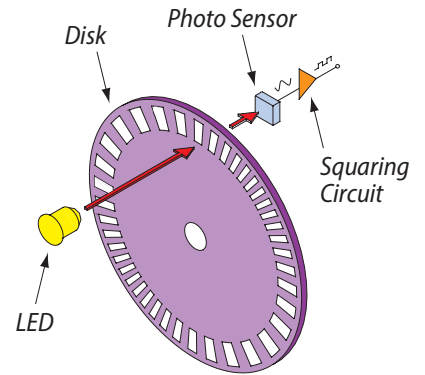

Figure 1
Encoders use different types of technologies to create a signal, including: mechanical, magnetic, resistive, and optical – optical being the most common. In optical sensing, the encoder provides feedback based on the interruption of light, as illustrated in Figure 1.
A beam of light emitted from an LED passes through the Code Disk (see Figure 1), which is patterned with opaque lines, much like the spokes on a bike wheel. As the encoder shaft rotates, the light beam from the LED is interrupted by the opaque lines on the Code Disk before being picked up by the Photodetector Assembly. This produces a pulse signal: light = on; no light = off. The signal is sent to the counter or controller, which will then send the signal to produce the desired function.
As seen in Figure 1, a beam of light emitted from an LED passes through a transparent disk patterned with opaque lines. The light beam is picked up by a photodiode array, also known as a photosensor. The photosensor responds to the light beam, producing a sinusoidal wave form, which is transformed into a square wave or pulse train. This pulse signal is then sent to the counter or controller, which will then send the signal to produce the desired function.
Figure 1 diagrams a typical rotary encoder. Incremental encoders can provide a once-per-revolution pulse (often called the index, marker, or reference) that occurs at the same mechanical point of the encoder shaft revolution. This pulse is on a separate output channel (Z) from the signal channel or quadrature outputs. The index pulse is often used to position motion control applications to a known mechanical reference.